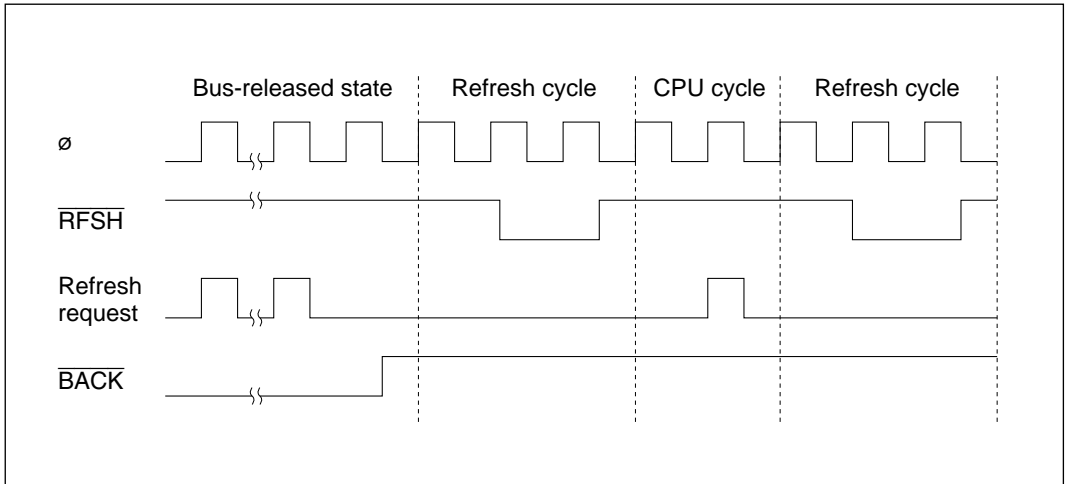

Figure 7-24 Refresh Cycles when Bus is Released
- If refresh requests occur while the bus is released, the first request is held and one refresh cycle is executed after the bus-released state ends. Figure 7-24 shows the bus cycles in this case.